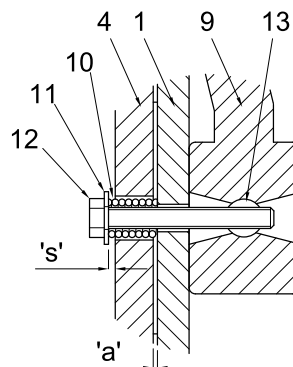

Figure 37 – Hoist Brake Hand Release
- Insert the compression springs (10) into the holes of the armature plate (1).
- Fit the washers (11) onto the hand release fixings (12) and assemble through the compression springs (10) and the stator (5).
- Fit the barrel nuts (13) into the holes provided in the hand release (9).
- Position the hand release (9) over the stator and tighten the hexagon screws (12) into the barrel nuts (13) until the armature plate moves towards the stator.
- Adjust the gap between the armature plate and the stator using the hexagon hand release screws (12) to achieve a dimension ('s' + 'a') (see Figure 37). Example 1.8mm (1.5+0.3) for brake size 3. Check the dimension at three positions around the circumference.
- Fit the complete brake assembly onto the hoist and tighten the assembly screws (7) to the value shown in the table (5.11.2).